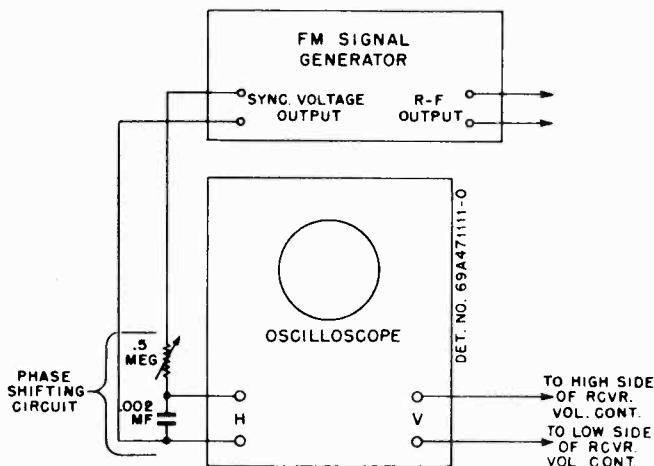
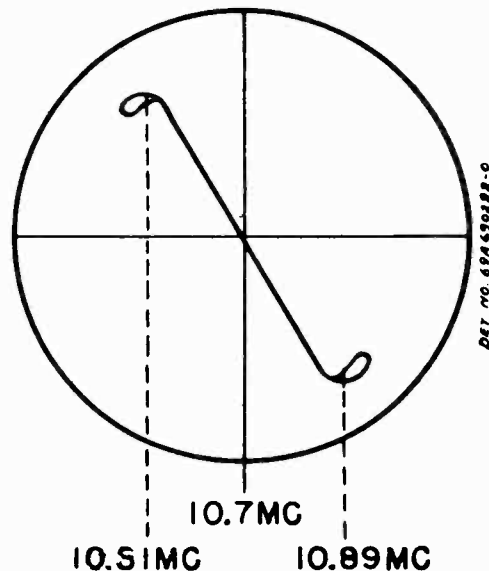

FIGURE 3. SIGNAL GENERATOR & OSCILLOSCOPE HOOKUP
FIGURE 4. OSCILLOSCOPE PATTERN
2. Connect the FM generator synchronizing voltage output terminals to a phase shifting network consisting of a variable 1/2 megohm resistor in series with a .002 mf capacitor. The input to the oscilloscope horizontal amplifier is connected across the .002 mf capacitor. See Figure 3. (This phase shifting network may not work with every oscilloscope. Different values of R & C may be required).
4. Back out ratio detector transformer secondary core (8) several turns and then adjust ratio detector transformer primary (9) for maximum amplitude. The phase shifting network resistor is adjusted to give only one trace.
5. Adjust ratio detector transformer secondary (8) until a symmetrical pattern is obtained, with peaks occurring at about 190 Kc above and below 10.7 Mc and is substantially linear between peaks. The trace should pass through the intersection of the vertical and horizontal axis. The phase shifting network should be adjusted to give only a single pattern at all times. See Figure 4. It will be necessary to go over ratio detector transformer primary (9) and secondary (8) adjustments several times before a pattern of maximum amplitude and correct symmetry is obtained.